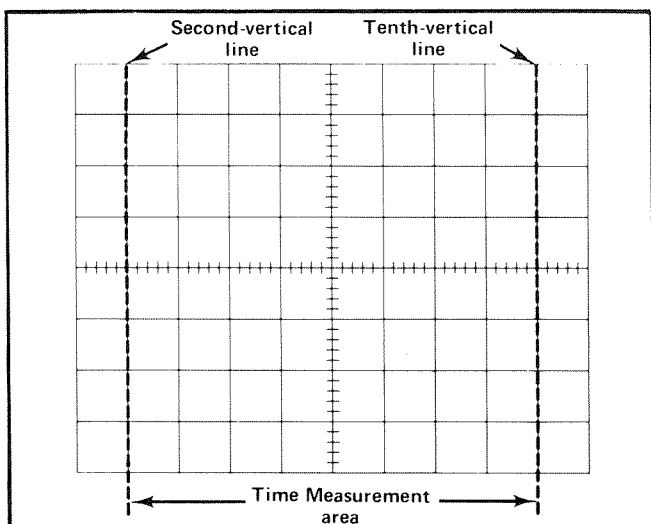

Fig. 2-7. Area of graticule used for accurate time measurements.
When making time measurements from the graticule, the area between the second and tenth vertical lines of the graticule provides the most linear time measurements (see Fig. 2-7). Position the start of the timing area to the second
5. Set the TIME/DIV OR DL'Y TIME switch to the fastest sweep rate that displays less than eight divisions between the time measurement points (see topic entitled Time Measurements and Fig. 2-7).